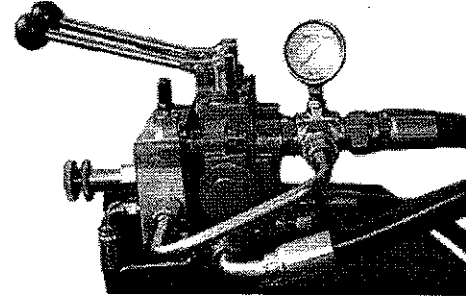

figure 38
1. Add a T-fitting and pressure gauge (rated at 3000 psi) to the swing circuit (figure 38).